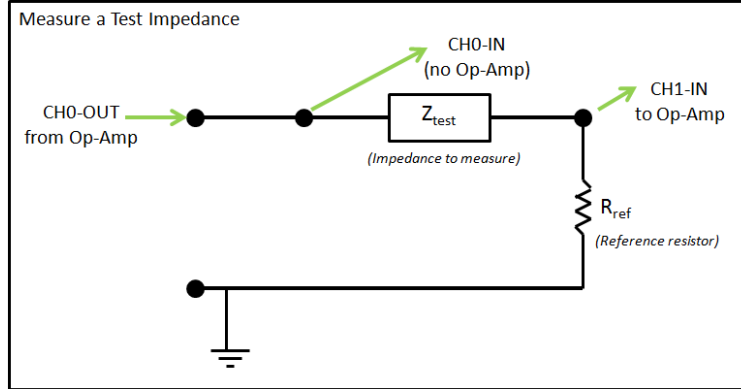

Figure 5: Circuit to measure a test impedance. The reference resistor R_{ref} should have an impedance magnitude similar to the test impedance.
2. Impedance-measurement circuit: Build the circuit shown in Figure 5, connecting to the op-amps and the MU box as shown in the diagram. To measure an impedance (V/I) we need to know the current, but the MU box measures voltages. Using a voltage divider with a reference resistor R_{ref} , you can calculate the current, and thus measure an unknown impedance Z_{test} .
- (a) Place a “test resistor” (of known impedance) in series with the reference resistor R_{ref} . Your test resistor should occupy the place of Z_{test} in Figure 5.
- (c) Use two inputs (into the MU-box), taken across the ‘test resistor’ terminals. CH0-IN should be connected to the “high” side of the speaker, and CH1-IN connected at the place where the speaker and reference resistor are joined, as described in Fig. 5.
NOTE: Every time you set up your lab circuit for the day, we suggest that you do a quick test with a resistor, as in Lab 1 (Fig. 5) to make sure everything is running properly!!!
- If you wish to measure a **current**, you will need a reference resistor of some sort (i.e. by measuring the voltage across a known resistor, you can calculate the current). This can be like your circuit in Fig. 5, or you can measure the voltage across a known resistor inside the 2-port you are trying to characterize
In this lab you will measure the electrical input impedance Eq. 1, where V is the voltage across the speaker and I is the current through it. The loudspeaker will be in **series** like your resistor from Lab 1, so you should connect the loudspeaker according to Figure 5. The loudspeaker has two terminals; when you swap the two terminals, the polarity of the acoustic signal will change. Note the red dot next to one of the terminals. Take this as the “” terminal. So for some later experiments, this could make a difference in your results, but not for Lab 3.